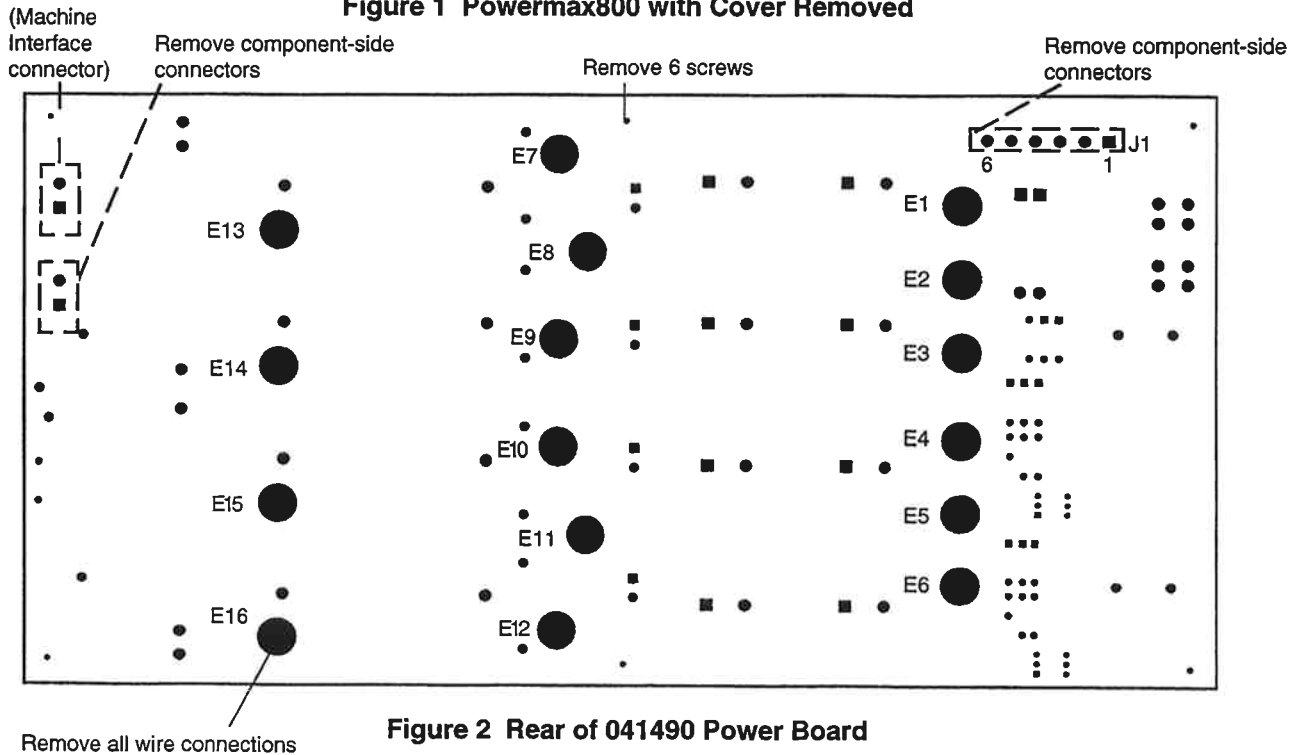

Figure 2 Rear of 041490 Power Board
4. Find power board and remove all wire connections on the rear side of the board - Fig. 2.
5. Remove the 6 screws that secure the power board to the frame of the Powermax800 - Fig. 2.
6. Remove connectors from the component side of the power board and remove the power board from chassis - Fig. 2.